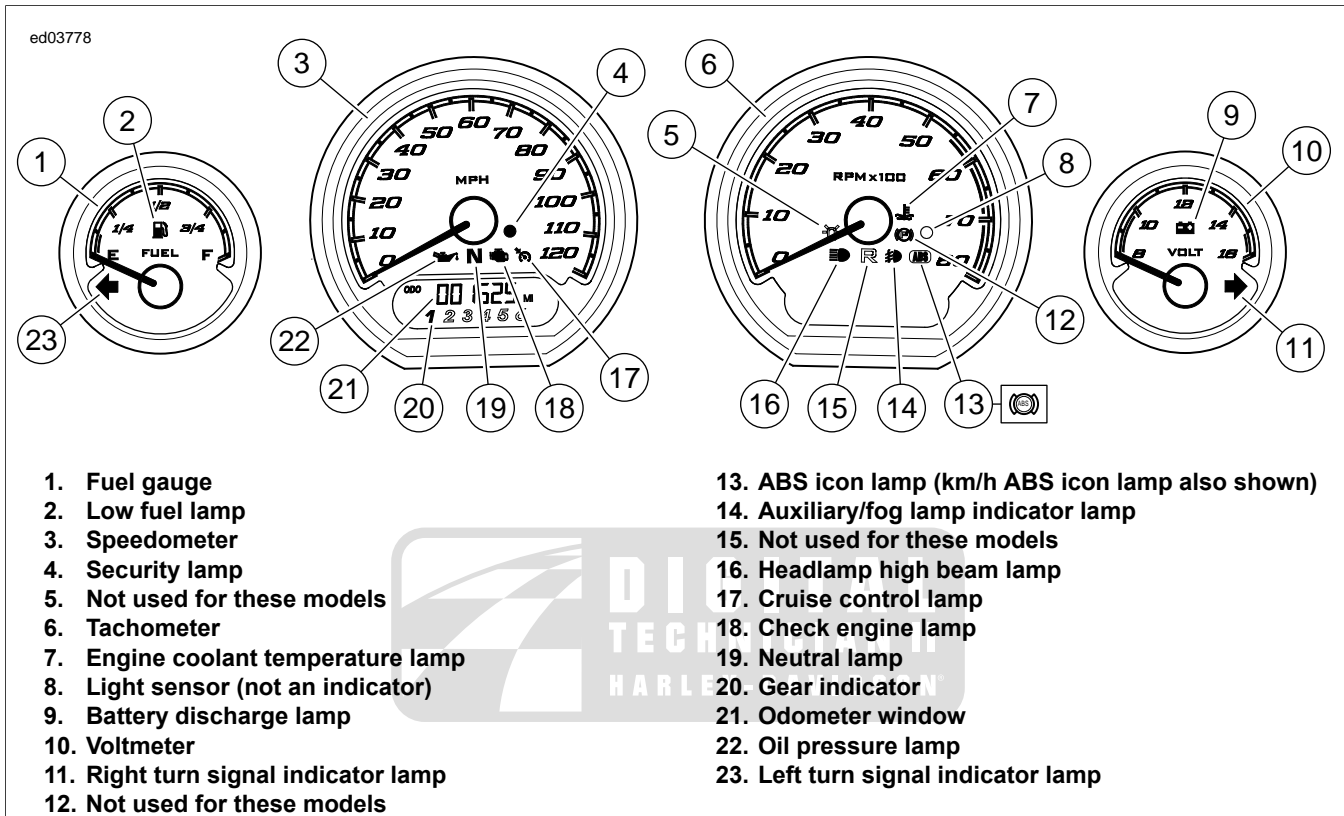
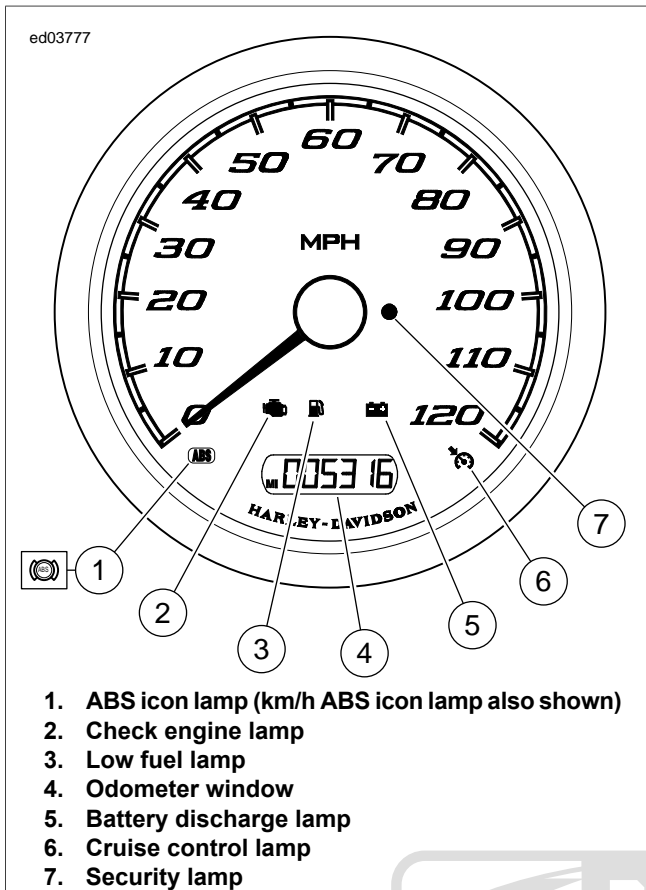

Figure 4-16. Indicator Lamps: Typical (Fairing Models)
Figure 4-17. Indicator Lamps: Non-Fairing Models
See Figure 4-16 and Figure 4-17. The instruments are significantly different between a fairing and non-fairing model. Models with fairings have several gauges with indicators in each gauge. These are integral to the gauges and are controlled through
**Non-fairing models:** See Figure 4-17. The low fuel indicator is controlled at terminal 9 (W/Y) of the speedometer. The fuel gauge sends voltage on the (W/Y) wire to the low fuel lamp and fuel level sender. When the fuel drops below 1.0 gal (3.8 L), the resistance in the fuel level sender reaches a point that causes enough of a change in the voltage on the (W/Y) wire and it signals the speedometer to activate the low fuel lamp.
**Fairing models:** See Figure 4-16. The low fuel indicator is controlled by the IM. The IM sends voltage on terminal 9 (W/Y) wire to the fuel level sender. When the fuel drops below 1.0 gal (3.8 L), the resistance in the fuel level sender reaches a point that causes enough of a change in the voltage on the (W/Y) wire and it signals the IM to send a message to the fuel gauge to activate the low fuel lamp.